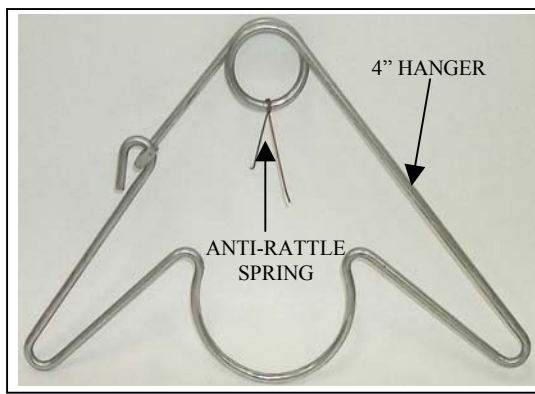
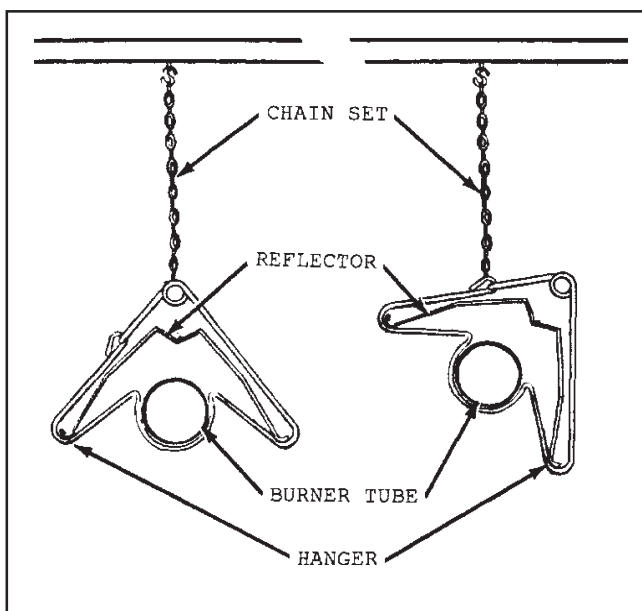

Figure 2.8
Figure 2.9
2. Each system is supplied with the necessary wire hangers for suspending the burner, radiant tubing and reflectors (see Figure 2.8). The reflectors may be mounted on angles of 0 degree to 45 degrees (see Figure 2.9).